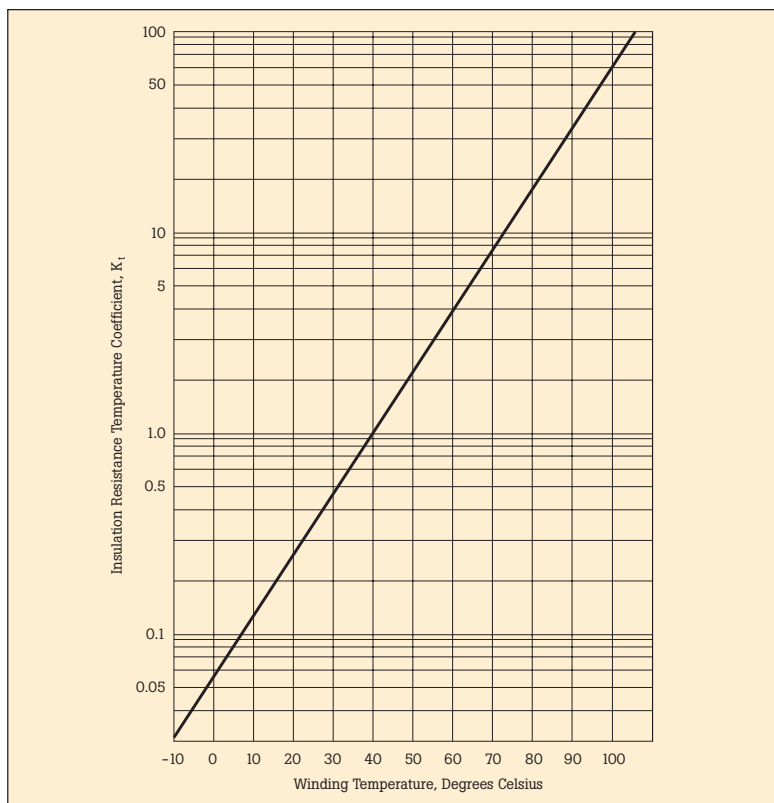

Figure 10. Approximate temperature coefficient for rotating machines
- K_t - Insulation resistance temperature coefficient at winding temperature, obtained from Figure 10